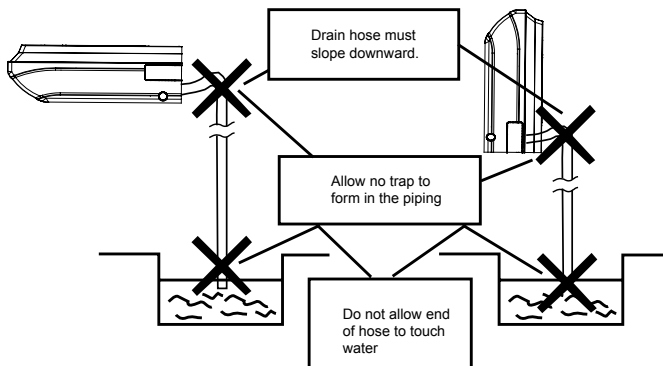

Fig.20
- (4) Connect the drain hose.(Fig.20)